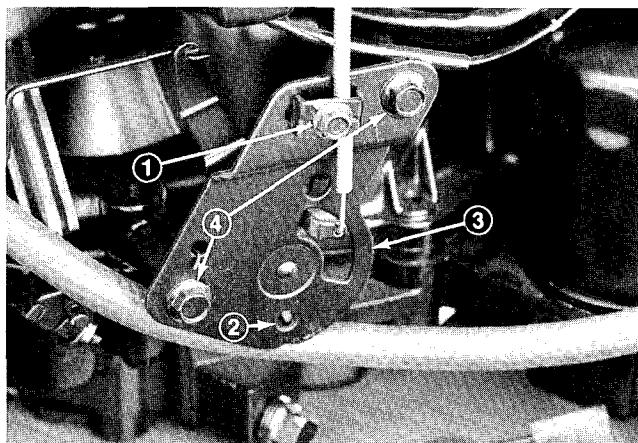

Figure 20
ADJUSTING THROTTLE-CHOKE CONTROL (Fig. 20)
2. Loosen the throttle cable clamp screw (Fig. 20) and move the control cable casing and wire until the hole in speed control is aligned with hole in control plate. Tighten cable clamp.